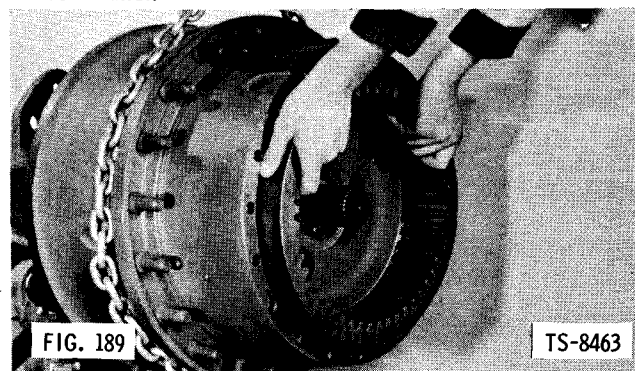

FIG. 189
30. Continue to support hub and drum with hoist. Position internal gear and hub on axle so that it engages splines on spindle (Fig. 189). Drive internal gear into place with soft mallet.